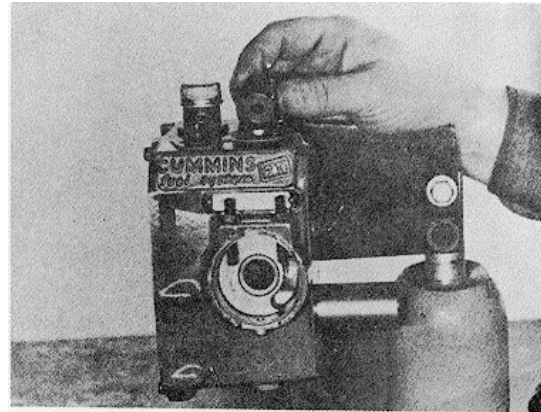

Fig. 5-95, F557. Installing fuel screen in standard housing
1. Assemble the filter screen assembly into top of standard housing, hole in retainer goes down. Fig. 5-95.